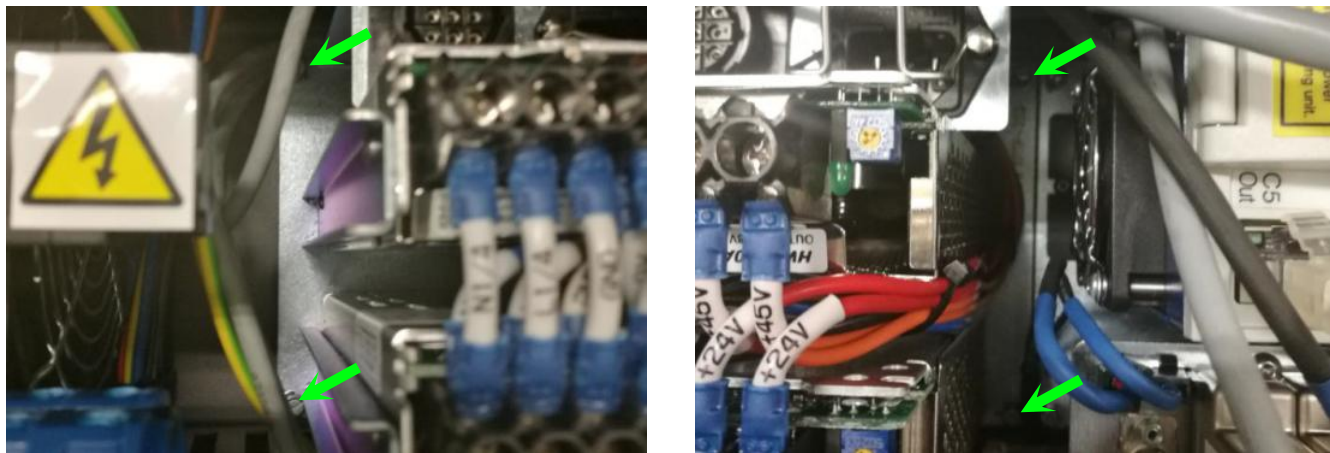

Figure 10 Power Supply Module Assembly
12. Assemble the Power Supply Module to SSCA by tighten 4 x thumb screws. May refer to below Figure 10